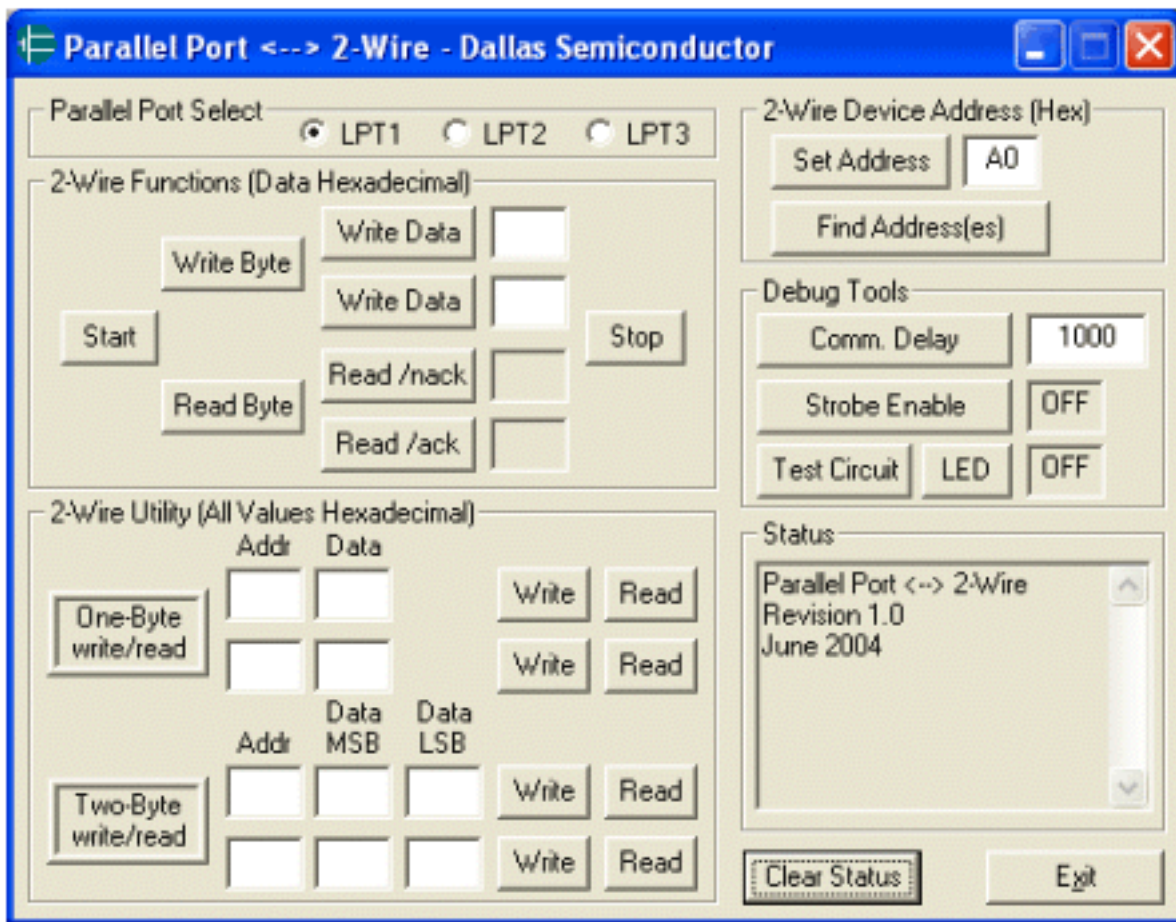

Figure 2. Parallel-Port, 2-Wire Software Running on Windows XP
7. Start the ParDS2W.exe application (Figure 2), which will now operate as it would normally on a Windows 95/98 computer.